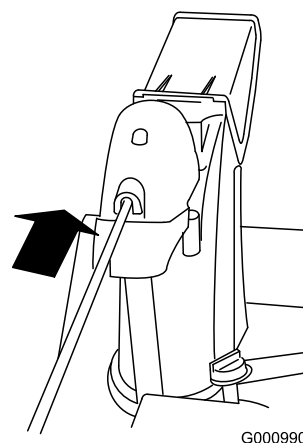

Figure 15
- Insert the front end of the rod into the opening in the back of the chute gear cover until it slides into the chute gear (Figure 15).